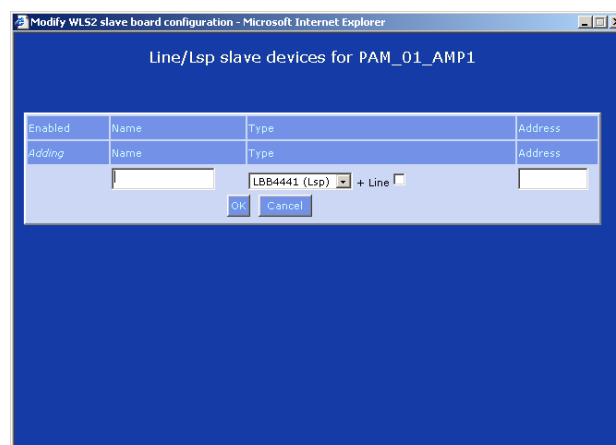

figure 34.18: Add slave device, step 2
- 2 Click the *Add* button to add the slave devices to the audio output. A screen similar to the one in figure 34.18 appears.